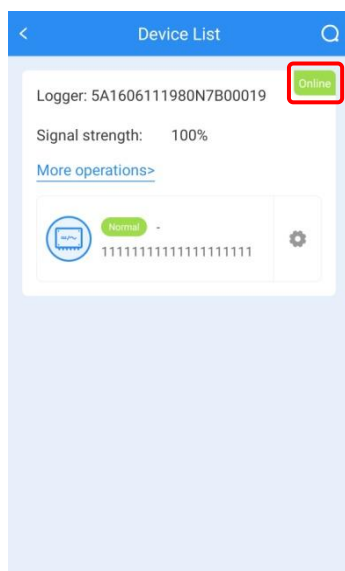

Figure4-8 Device list
- Step 10 Back to main page, the device status turns to "**Online**" from "**Offline**", as shown in Figure4-8.